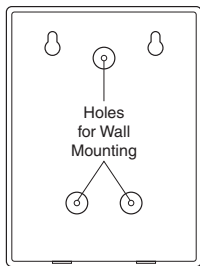

Figure 6 - Screw Mounting
- Use chime holes as a template (see Figure 6). Drill three 7/32" diameter pilot holes for wall anchors (provided) and insert anchors.